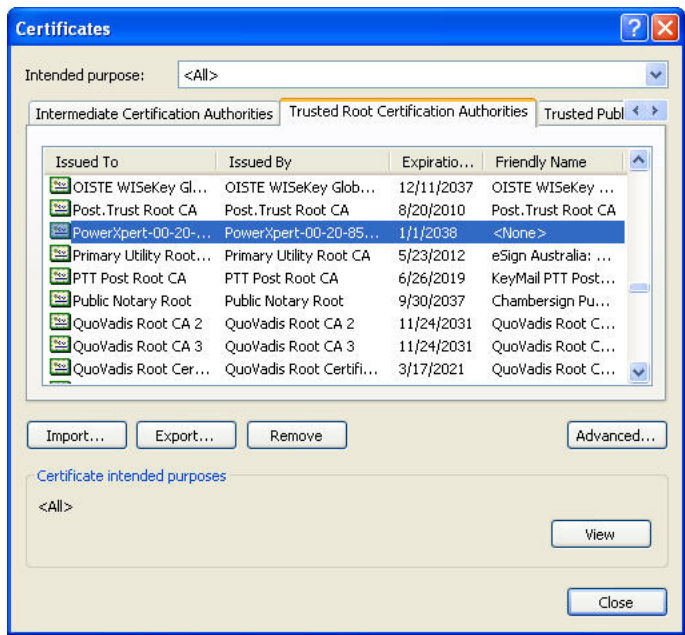

Figure 47. Certificates Window – Trusted Root Certification Authorities Tab
- c. Click the **Trusted Root Certification Authorities** tab and locate and select the certificate name on the list (see Figure 47).